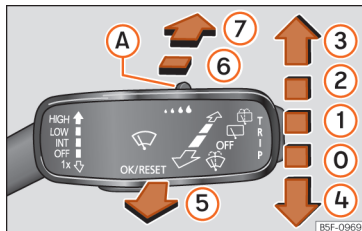

Fig. 45 Operating the windscreen wiper and rear wiper.
- ① Windscreen wipers interval wipe. Using the control » **Fig. 45 (A)** adjust the interval (vehicles without rain sensor), or the sensitivity of the rain sensor.
- ② **LOW** Slow wipe.
- ③ **HIGH** Continuous wipe.
- ④ **1x** Short wipe. Brief press, short clean.
- ⑤ Automatic wipe. The windscreen washer function is activated by pushing the lever forwards, and simultaneously the windscreen wipers start.
- ⑥ Interval wipe for rear window. The wiper will wipe the window approximately every six seconds.
- ⑦ The rear window wash function is activated by pressing the lever, and the rear wiper starts simultaneously.